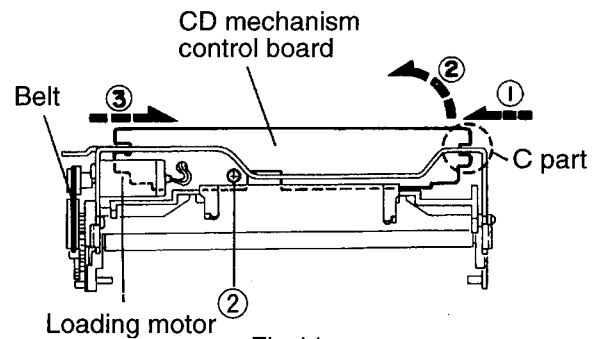

Fig.11
5. After disengaging the engagement between the notch section ④ and frame,remove the CD mechanism Control P.C .board successively from ① through to ③ in the arrow direction as shown in Fig. 11.